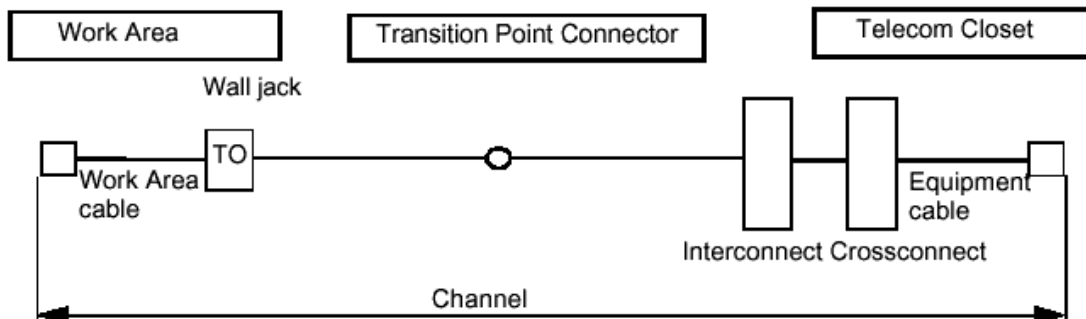

Figure 2: ANSI/EIA/TIA Horizontal Cabling Subsystem
- **“Oops, I forgot to connect that cable.”** The Ethernet connection from the user (i.e., networked PC) to the switch located in the wiring closet, consists of many discrete cables and connectors – all of which are potential sources of fault (see figure 2). In a typical installation, the fewest number of RJ45 connectors used in a single network link is six (6). The most common form of a fault, or disconnection (also called an “open”), is an unconnected cable somewhere in the infrastructure. This problem is easily rectified but can also be frustrating as it may take significant time to isolate the problem (find the disconnected cable).